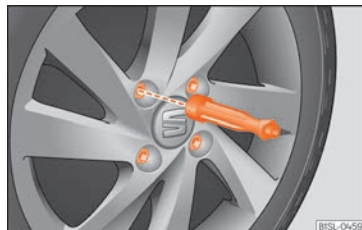

Fig. 37 Changing the tyre: loosen wheel bolts with the socket at the end of the wheel brace
- Fully unscrew the loosened wheel bolts with the inner hexagon of the screwdriver handle »» Fig. 37 and place them on a clean surface.